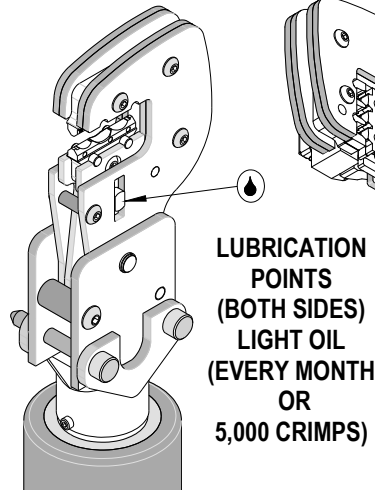

Figure 7A
3. Make certain all pins; pivot points and bearing surfaces in the tool head are protected with a thin coat of high quality machine oil. Do not oil excessively. This tool was engineered for durability, but like any fine piece of equipment, it needs cleaning and lubrication for a maximum service life of trouble-free crimping. The use of light oil, such as 30 weight automotive oil, every 5,000 crimps or monthly, will significantly enhance the tool life and ensure a stable calibration. See Figure 7A or 7B for lubrication points.